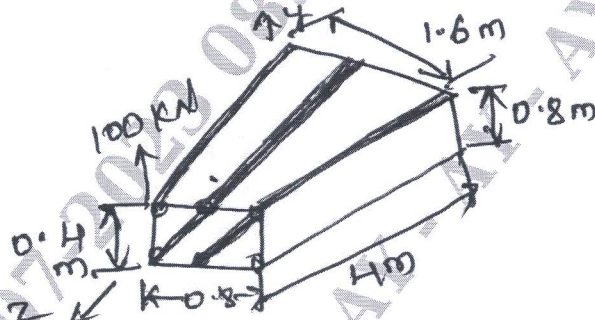

Fig. Q9 (a)
- 9 a. The Cantilever beam is shown in Fig. Q9 (a) is uniformly tapered along its length in both x and y directions and carries a load of 100 kN at its free end. Calculate the forces in the boom and the shear flow distribution in the walls at the section 2 m from the built in end. If the boom resist all the direct stresses while the walls are effective in shear. Each corner boom has a cross sectional area of  $900 \text{ mm}^2$  while both central booms have cross sectional area of  $1200 \text{ mm}^2$ .